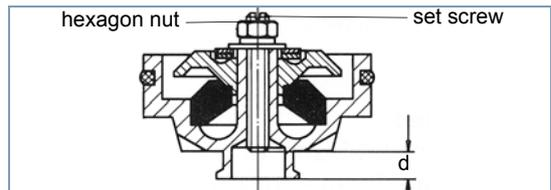

Fig. 4 Dimension d (Device with one rubber spring)
- Adjust dimension $d = C + 0,8$ mm in the graduating piston by turning the set screw (see fig. 4).
- Counter set screw by turning seizing the hexagon nut (see fig. 4).